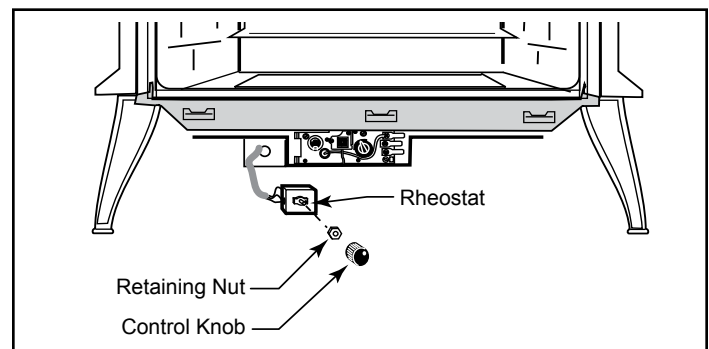

Figure 39 - Attach rheostat to control panel. Valve may look different.
10. Slide shroud assembly over the sides and fasten the four (4) screws loosened earlier.
11. The rheostat control switch attaches to the left side of the valve bracket at the front of the stove. (Figure 39)